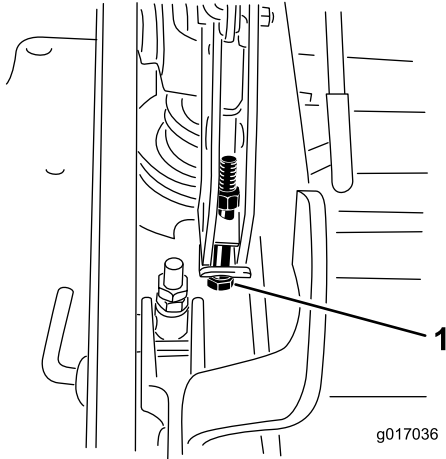

Figure 95
12. If the deck is too low, tighten the single-point adjustment bolt by rotating it clockwise. If the deck is too high, loosen the single-point adjustment bolt by rotating it counterclockwise (Figure 95).